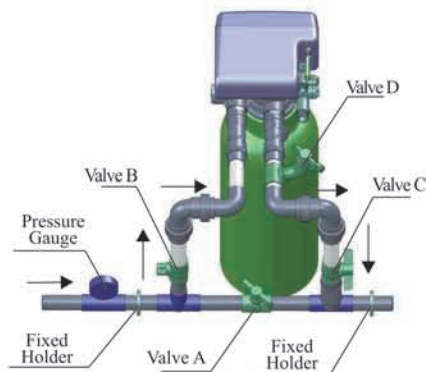

Figure 1-3
④ **Pipeline connection**
- a. As Figure1-3 shows, install a pressure gauge in water inlet.